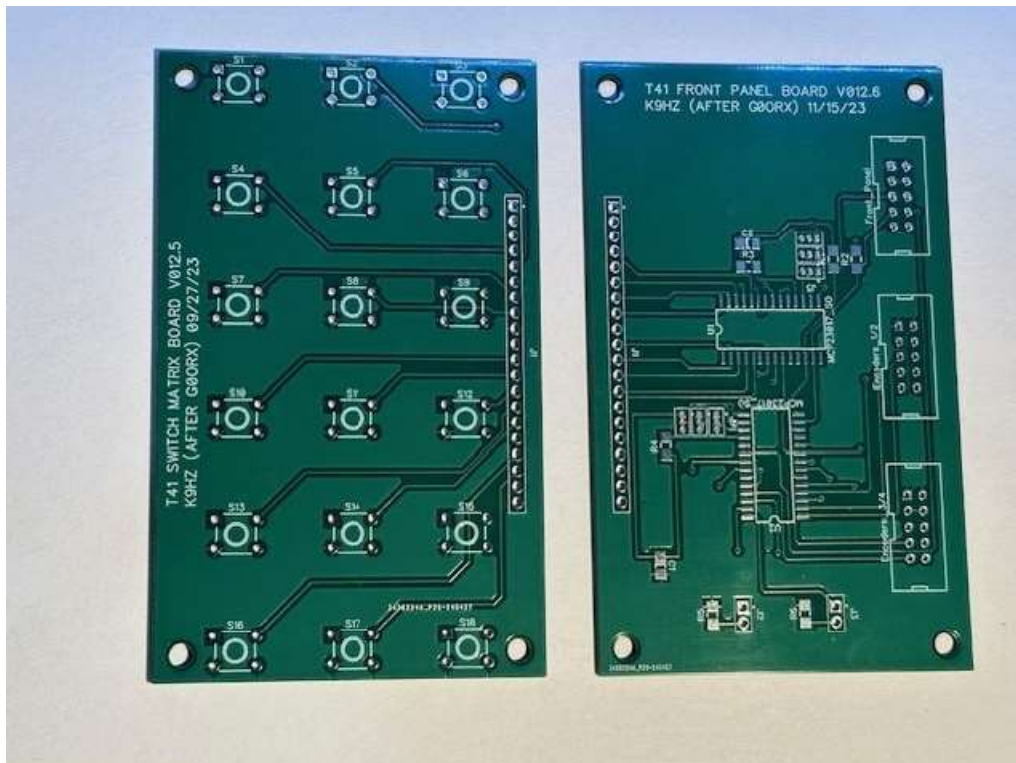

Figure 1. Top Side of Front Panel Boards.
1. Solder on the sides of the boards shown in Figure 1. Printing is on the top sides of the boards.